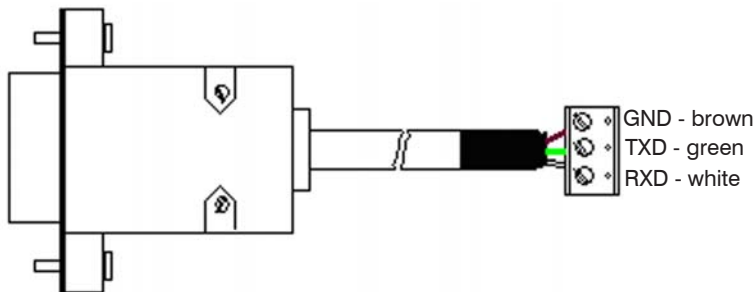

Fig. 37 Pin assignment RS232
- **i** Make sure the wiring is correct according to the drawing and designation printed on the interface board, see Fig. 37.